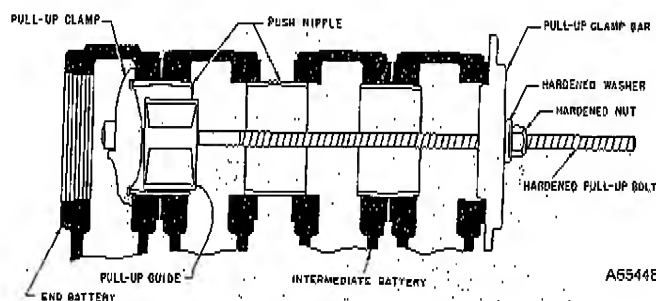

Figure 11
2. Place pull-up guide on bolt and slide into position next to clamp. This centers clamp in port and causes it to assume a right-angle position with pull-up bolt. See Figure 11.